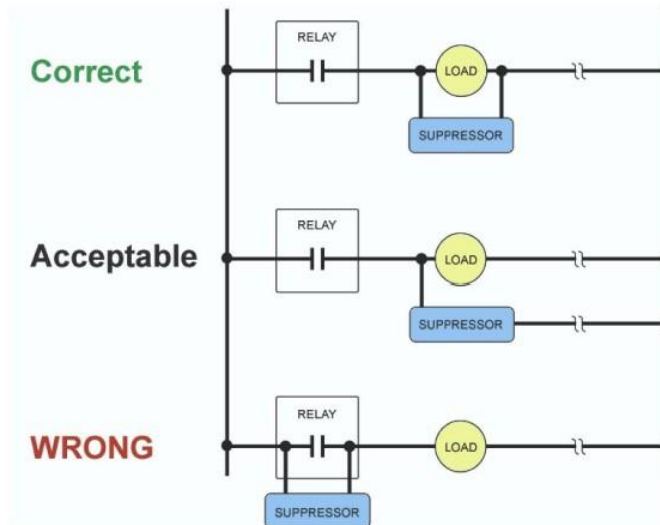

Figure 2-17. Installing a Suppressor across an AC Load
- a. Install arc suppressors across each inductive AC load (motors, coils, etc.) that is connected to a cam relay. Suppressors are supplied with your WPC APEX cam outputs. Install the suppressors across the load or as close to the load as possible. Attach suppressors by connecting leads across existing terminals or junction points. Figure 2-17 shows the correct way to install suppressors.